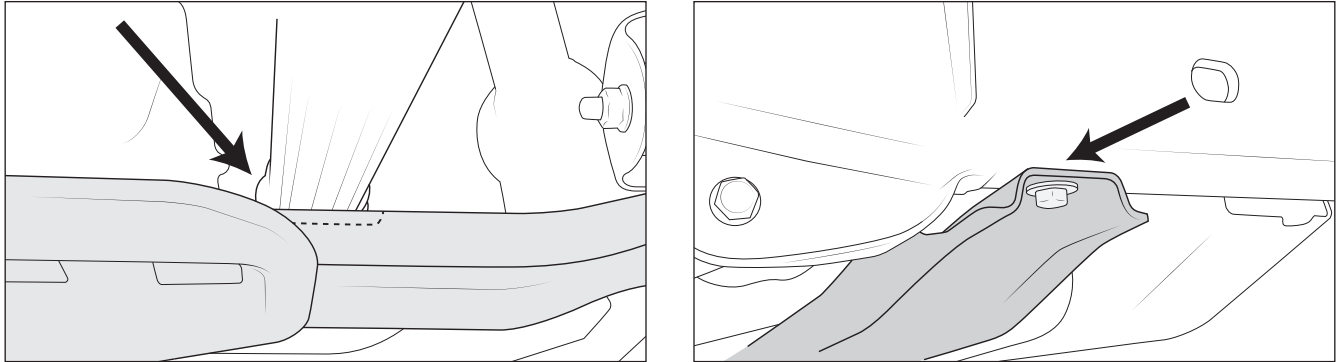

Figure 35
- A. Hold the skid plate in position and mark where the skid plate will need to be trimmed. Trim the skid plate as shown and paint for corrosion protection (Fig. 35).
- B. Install the skid plate using the 4 supplied spacers, 2 at each side (Fig. 35).